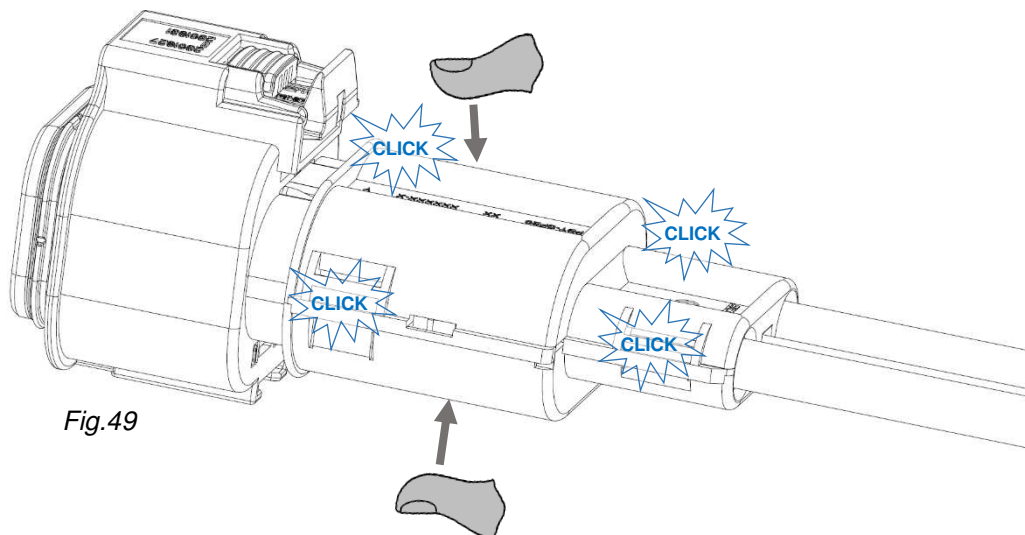

Fig.49
(Fig.49)
**Please note: In this Condition, the two halves of the Cover are still in pre-position (Fig.49)**